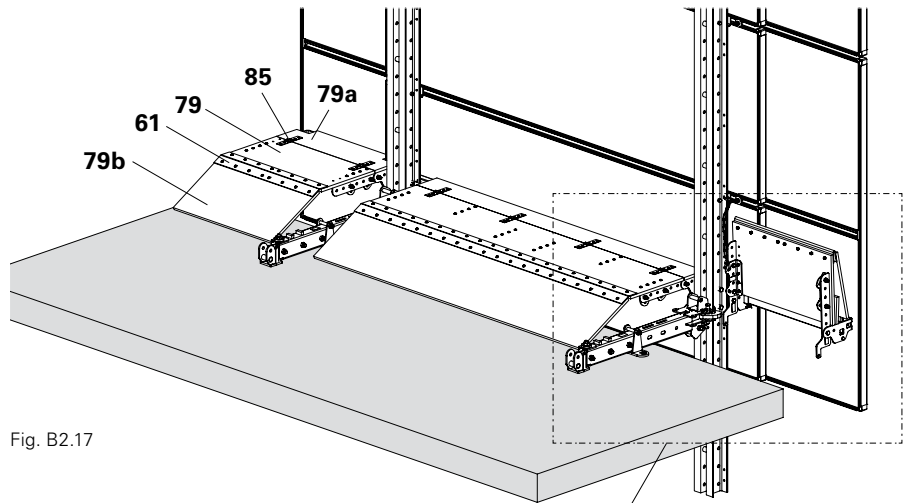

Fig. B2.17
Fix untreated plywood with Cover Strip LPS 0.20 x 10 m (61) to the Platform Cover (53) as a front flap (79b). (Fig. B2.17)